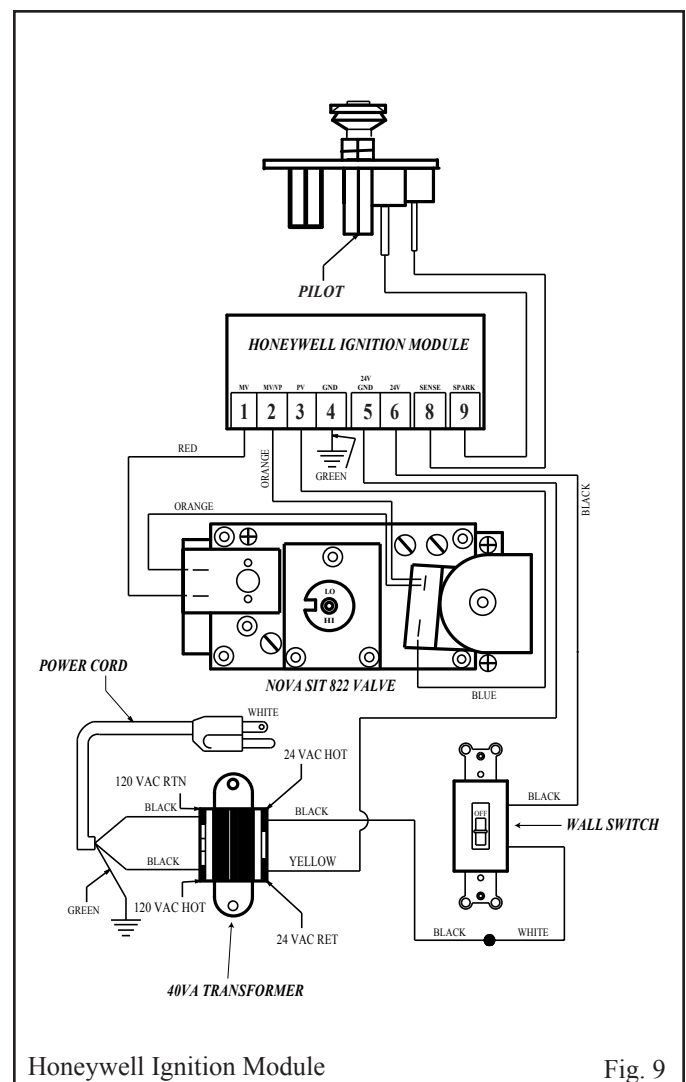

Fig. 9
3. Connect the other ends of the wire to the gas control valve as shown in Fig. 9 or 10.